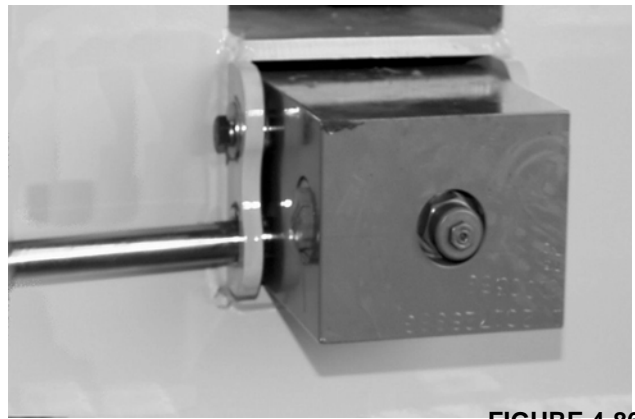

FIGURE 4-86
8. Insert two tele rod end pins. Secure both ends of each pin with a flat washer, lock washer, and capscrew (Figure 4-86).